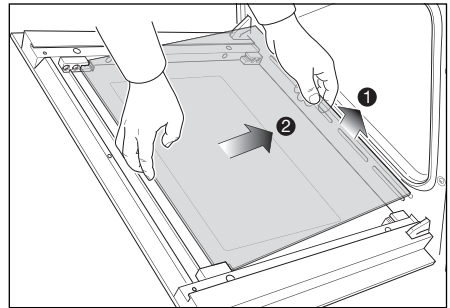

Fig.52c
- Gently lift the bottom edge of the pane (arrow 1 in Fig. 52c) and remove it by pulling it out from the top clamps (arrow 2 in Fig. 52c).